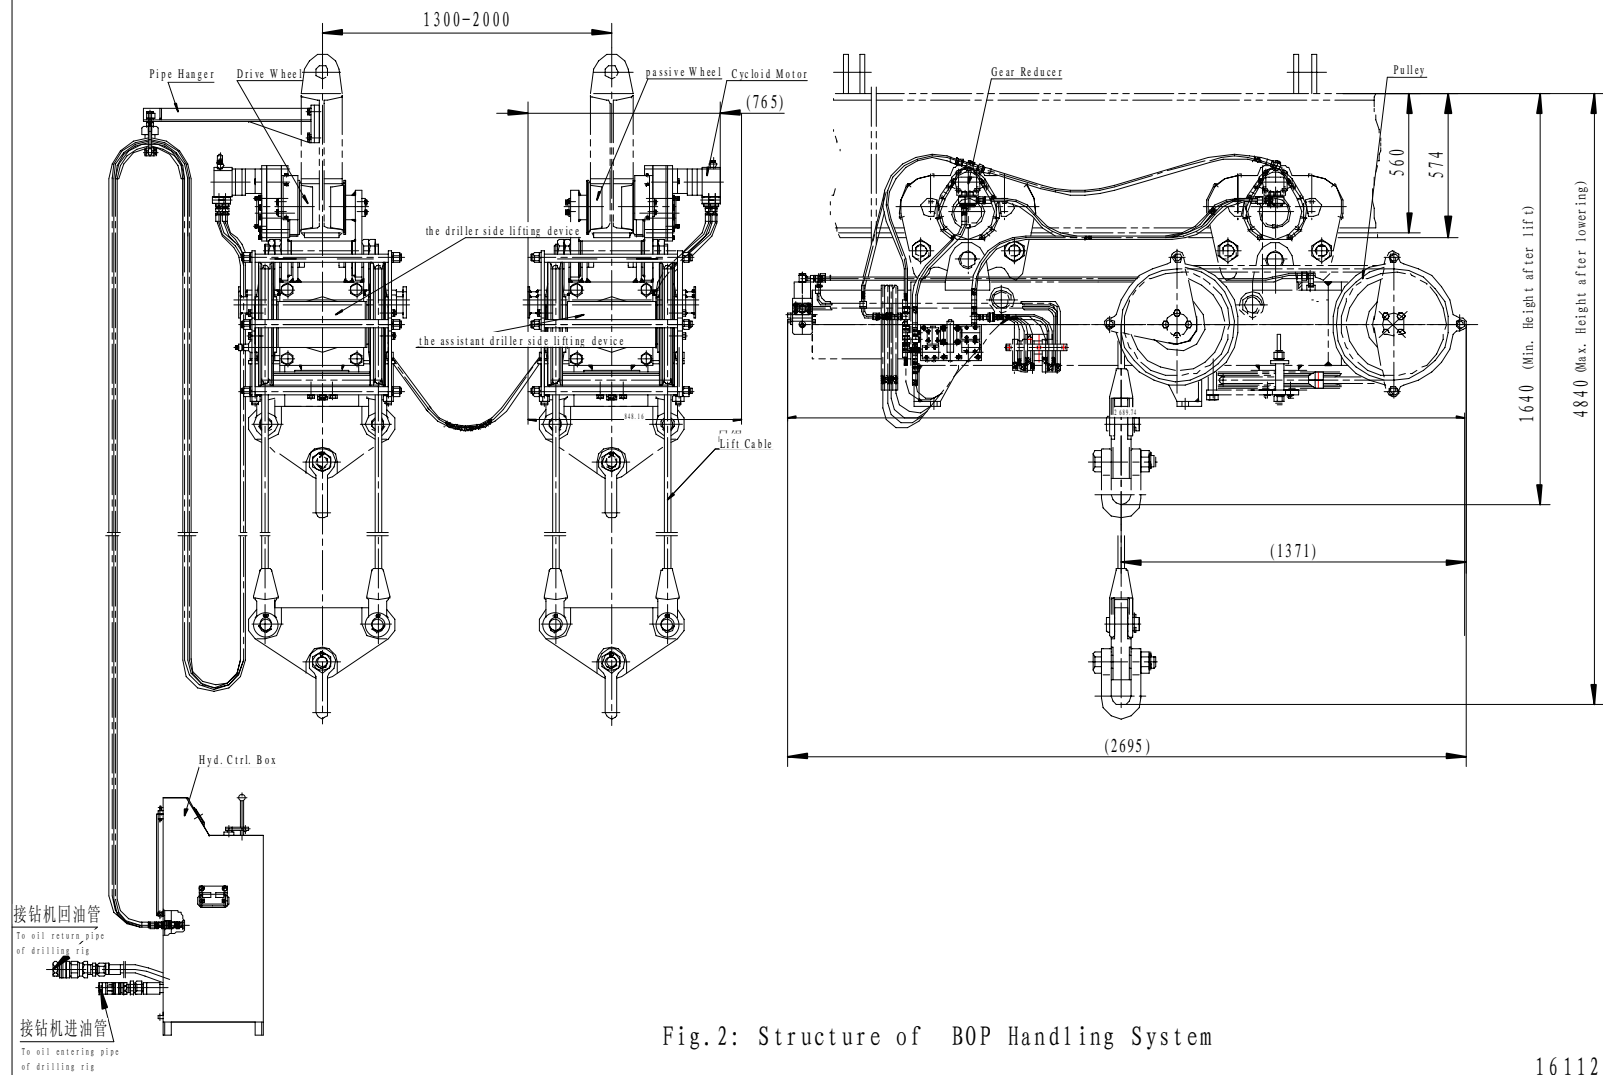

Fig.2: Structure of BOP Handling System
2. Fig.2: **Structure of BOP Handling System**